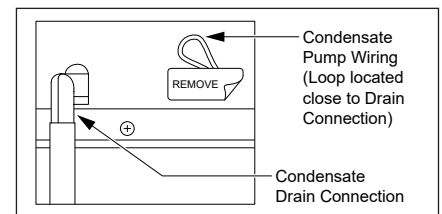
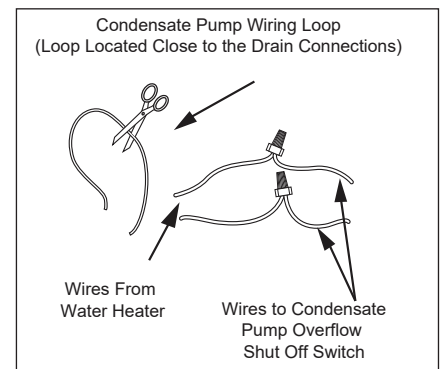

Figure 14 - Condensate Pump wiring.
Figure 15 - Wiring Loop for connection to Condensate Pump.
**1** Locate the wiring loop next to the condensate drain connection and remove label (Figure 14). Cut the loop and strip insulation off the two ends (Figure 15).